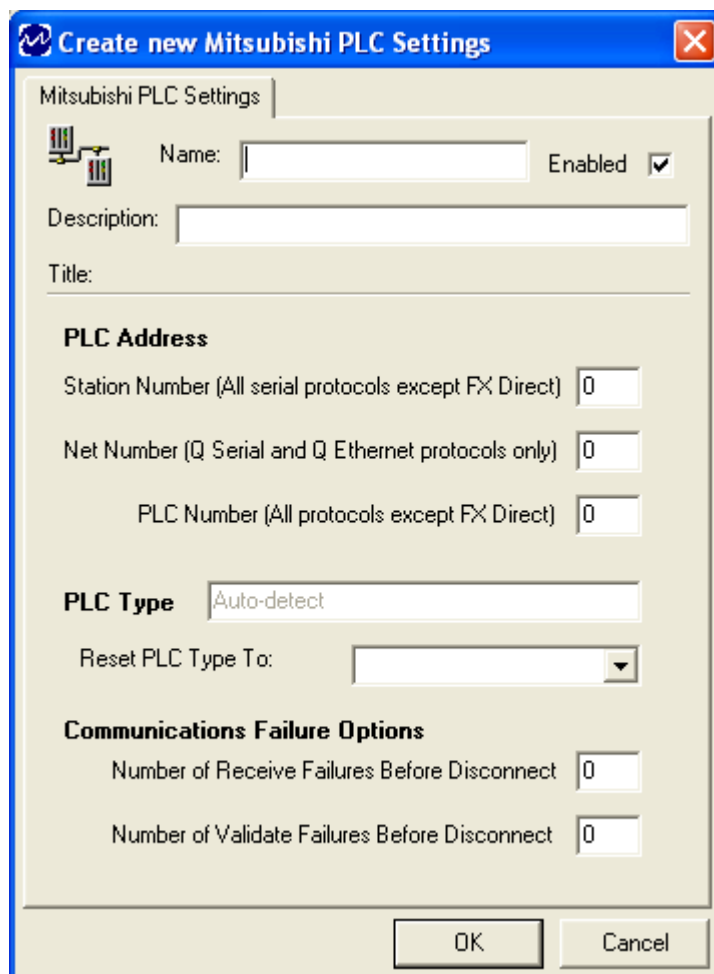

Figure 19 - Create New Mitsubishi PLC Settings Window
Figure 19 displays the **Create New Mitsubishi PLC Settings** window.
- The **Create New** window appears (Figure 19).